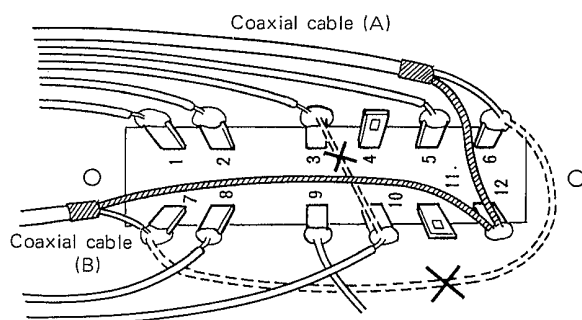

Fig. 4 Change of TS-520 X VERTOR Connector Circuit
Only the X VERTOR connector circuit may be changed. Do not touch any other circuits. To change, remove the lead wire connected between the pins 6-7 and the other lead wire connected between the pins 3-10 by referring to Fig. 4.
**NOTE:** On earlier produced TS-520, solder both the earth line of coaxial cable (A) and (B) to twelfth terminal (see Fig. 4), which are open.